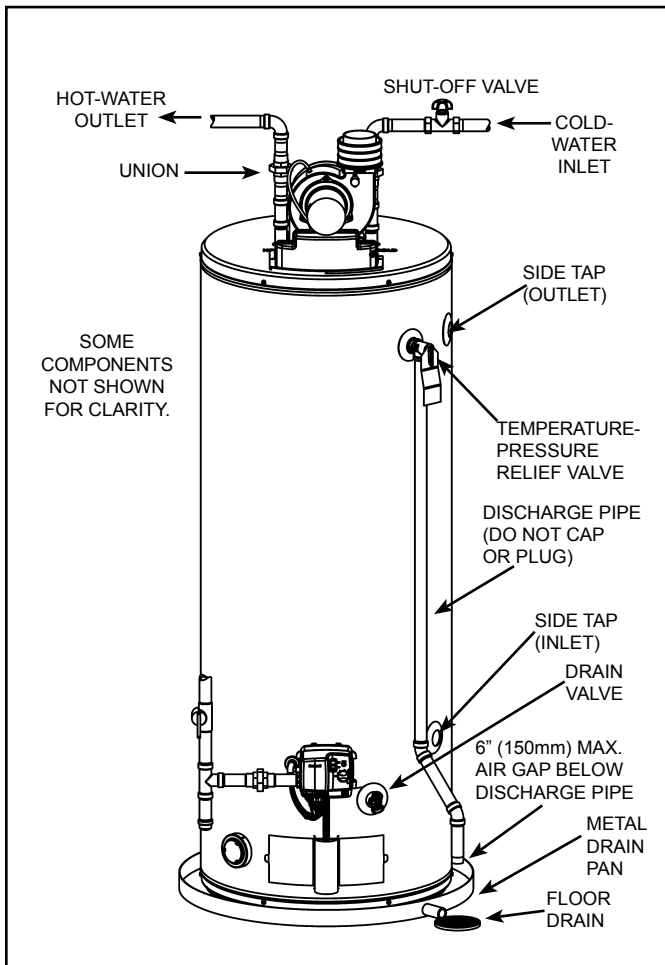

Figure 28
1. Close the water heater drain valve by turning handle to the right (clockwise). The drain valve is on the lower front of water heater (see Figure 28).